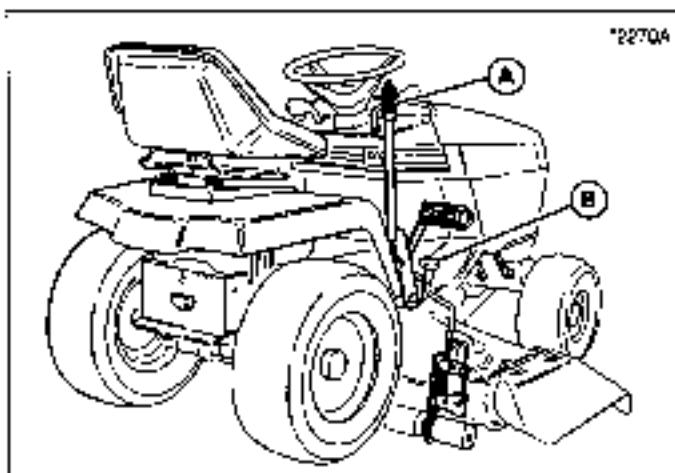
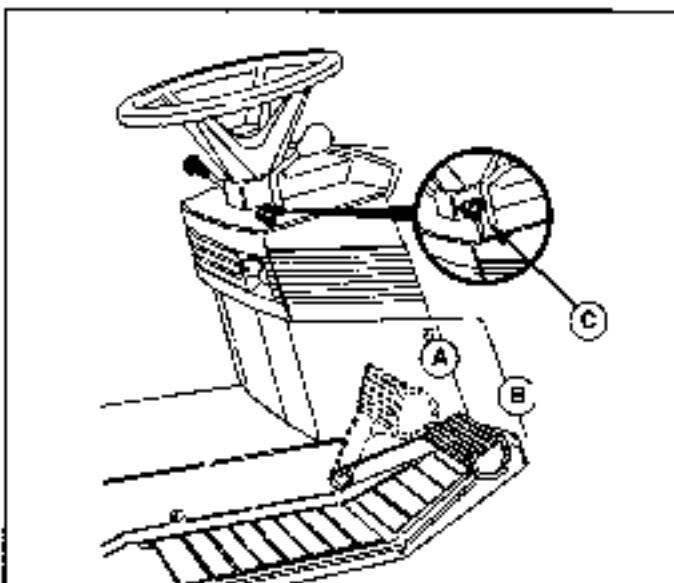
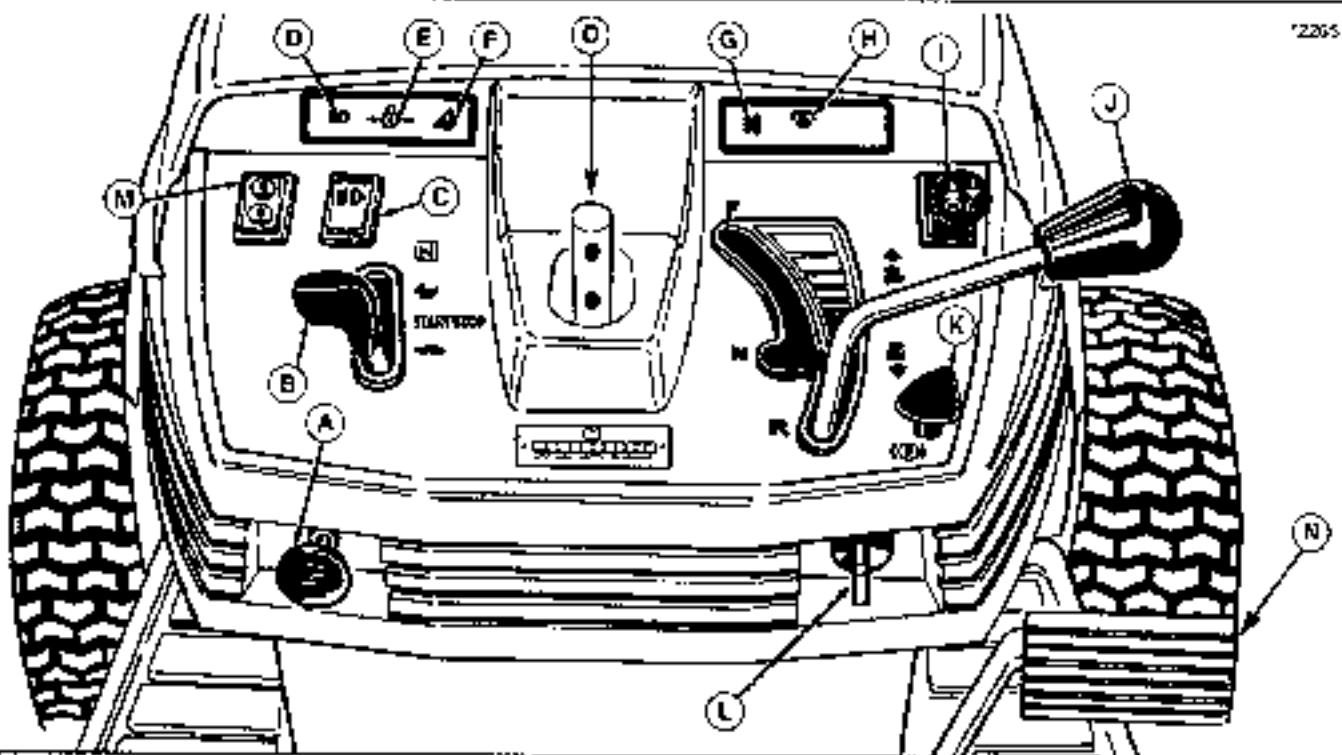

Figure 10. Mower Operation - Manual Lift
Figure 11. Clutch/Brake Pedal and Parking Brake
Figure 13. Tractor Controls (Hydro Model Shown)
2. Place mower in the lowest cutting position using the mower height adjuster (B, figure 10). Place the mower lift lever (M, figure 2 or A, figure 10) in the lowest position, also. Slide mower deck under right side of tractor so that mower hitch is aligned with front tractor hitch.
- Place mower in the lowest cutting position using the mower height adjuster (B, figure 10).
- Place the mower lift lever (A, figure 10 or M, figure 13) in the lowest position.
- When traveling to or from the work site, fully raise the mower using the mower lift lever (A, figure 10 or M, figure 13). At the work site, lower mower using the lift lever.
- Use the mower height adjuster (B, figure 10) to set the proper mowing height. See Mowing Patterns & Tips section for cutting height recommendations.
1. See figure 11. Depressing the pedal to position A disengages the transmission drive and, when in a forward gear, returns the transmission control lever to neutral. Fully depressing the pedal to position B applies the tractor brake.
2. Parking brake is applied at pedal position B when parking brake control knob (C, figure 11) is pulled up with pedal fully depressed.
2. See figure 11. Depressing the brake pedal from position A to B applies the tractor brake. Parking brake is applied at position B when parking brake control knob (C) is pulled up with pedal depressed.
Refer to figure 13.
On hydro models, ground speed is infinitely variable according to how far the control lever (J, figure 13) is moved in the forward or reverse position.
On gear models, ground speed is selected by depressing the clutch pedal and moving the control lever (J, figure 13) to the appropriate gear selection.
1. If you are ready to mow, lower the mower from the transport position using mower lift lever (A, figure 11 or M, figure 13) and set the mowing height using the
mowing height adjuster (G, figure 11).
2. Set the engine speed control lever (B, figure 13) for full speed.
3. Use the PTO switch (I) to engage the PTO.
4. Release the parking brake by depressing brake pedal (N, figure 13) and pushing knob (K) down.
5. On hydro models, move the ground speed control lever (J, figure 13) to the desired direction and speed of travel to set the tractor in motion.
6. Adjust engine speed control lever (B, figure 13) to the desired speed. Between 3/4 and full speed is recommended for mowing.
1. On hydro models, move the ground speed control lever (J, figure 13) into the NEUTRAL position to make a gradual stop. To make a more rapid stop, depress the clutch/brake pedal (N, figure 13).
On gear models, press the clutch pedal (N, figure 13) down to disengage the clutch for a gradual stop. For a more rapid stop, press the brake pedal down to apply the brake while also depressing clutch pedal to disengage the PTO. Move the ground speed control lever to NEUTRAL before releasing the pedals.
2. Engage the parking brake by fully depressing brake pedal and pulling up on parking brake knob (K, figure 13).
3. Use the PTO switch (I, figure 13) to disengage the PTO.
4. Set the engine speed control lever (B, figure 13) to 1/2 throttle setting and allow the engine to idle for 20 seconds. Stopping a hot engine too fast may cause engine damage.
5. Turn key (L, figure 13) to OFF and remove it.
1. With engine off and key removed, use the PTO switch (I, figure 13) to disengage the PTO.
2. Place the mower in the transport position (up) using the mower lift lever (A, figure 10 or M, figure 13).
3. Place the ground speed control lever (J, figure 13) in the neutral position.